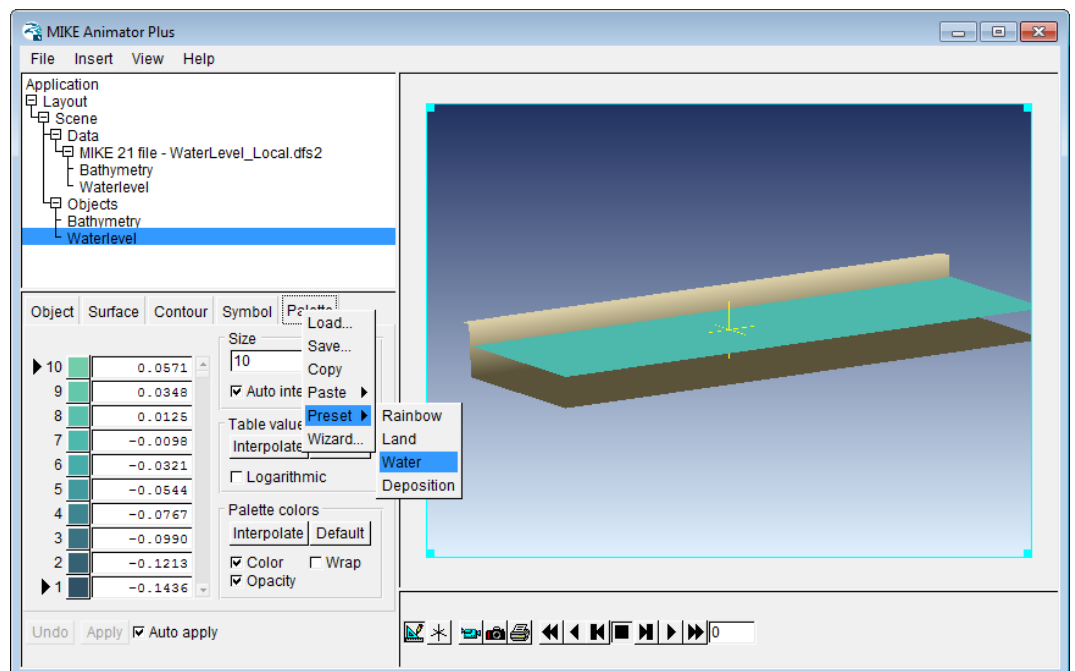

Figure 3.33 Adding data to existing scene
8. From the drop-down menu select 'Preset' and 'Water', see Figure 3.33.